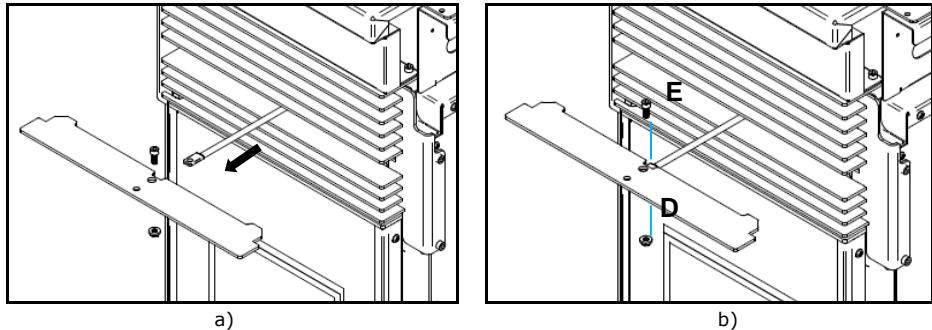

Figure 40 - Registry pad grip
f) Then, pull the registry bar forward (Figure 40-a), match the hole of the shaft and the hole of the blade and join them with a screw **E** (DIN 912 M6x14) or screw (ISO 3780 M8 X12). If using the first screw, use a nut **D** (Nuts M6 DIN 6923) as shown in Figure 40-b.